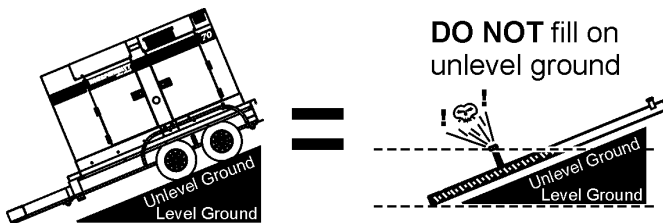

Figure 30. Only Fill on Level Ground
1. **Level Tanks** — Make sure fuel cells are level with the ground. Failure to do so will cause fuel to spill from the tank before reaching full capacity (Figure 30).